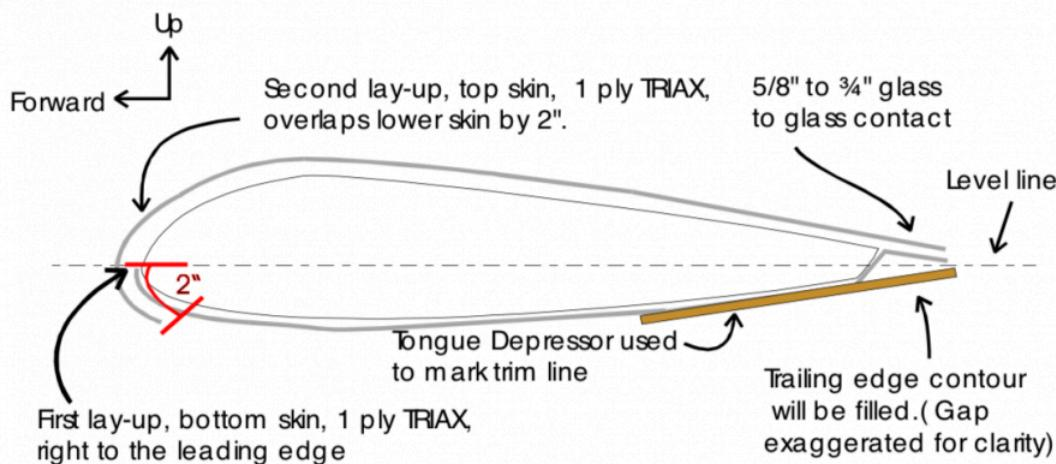

Figure 2-12. Wing Lay-Ups
You want the top skin (not yet applied) to overlap the bottom skin 2", so make a line 2" aft of the leading edge trim line. Knife trim or sand the trailing edge to the outer edge of the I-beam at the **trailing edge** of the wing. (see Figure 2-12).
- In the spar area, the upper skin should overlap the lower as shown in Figure 2-12.